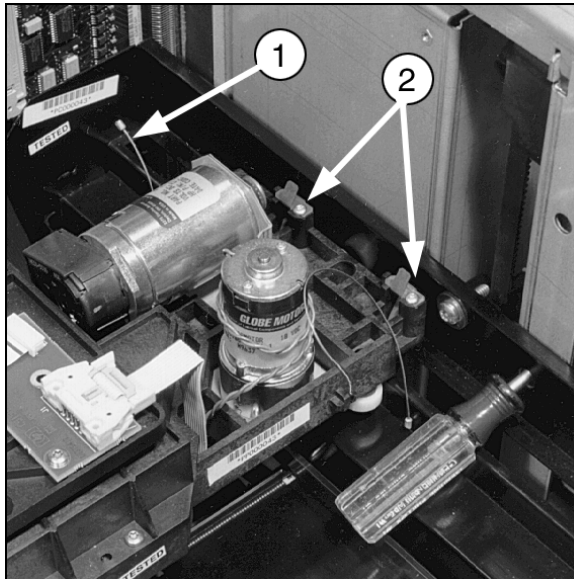

Figure 5-25. Translate Rope Stowed and Capture Bracket Spring Mounting Screws
7. Place this end of the rope into the rope holder on the side of the picker. Figure 5-25 shows the ropes stowed on each side of the picker.
8. Remove the two T-10 sheet metal screws that hold the two capture springs down. See the two arrows at the rear of the picker in Figure 5-25 (2).